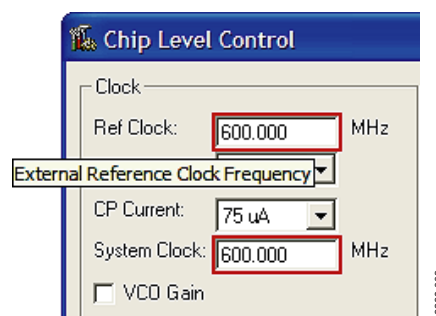

Figure 8.
**Ref Clock** inputs the operating frequency of the external reference clock or crystal. The maximum reference clock frequency of the AD9911 is 500 MHz, which is the default setting of this box. A red outline indicates that the value entered is out of range (see Figure 8).